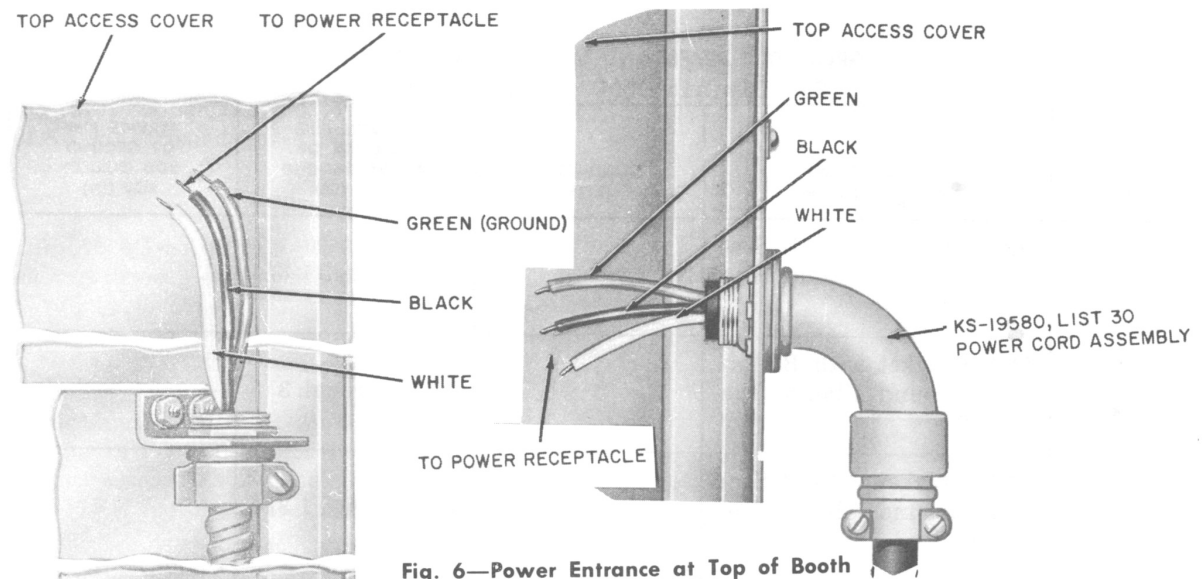

Fig. 6—Power Entrance at Top of Booth
**2.06** Fig. 6 and 7 are typical outdoor power connections.